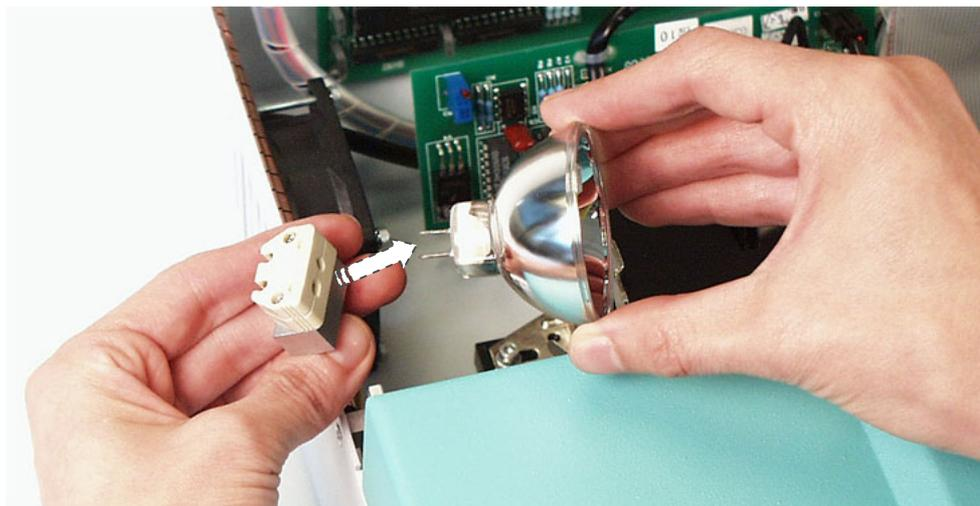

Fig. 7.7 Changing the lamp
2. Lift up the lamp with the terminal socket. Pull the terminal socket from the lamp contacts (Fig. 7.7).